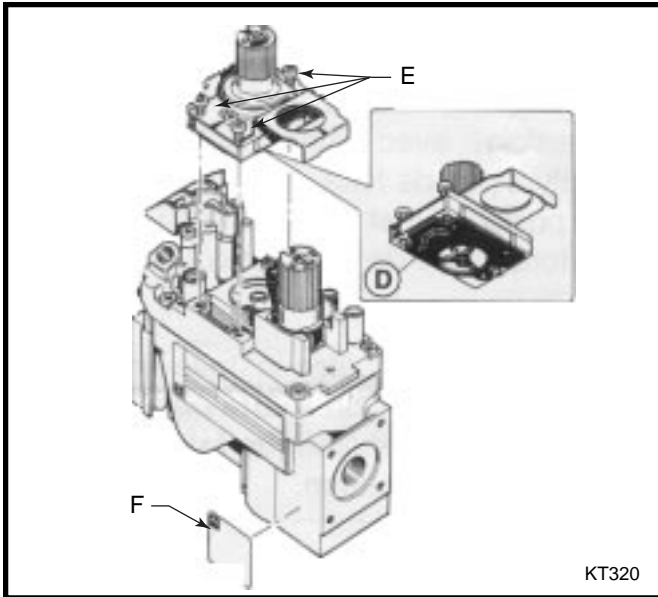

Fig. 8 Replace regulator.
2. Insure the rubber gasket (D) is properly positioned and install the new Hi/Lo pressure regulator assembly to the valve using the new screws (E) supplied with the kit. Tighten the screws securely. (Ref. torque = 25 in/lb) (Fig. 8)
3. Install the enclosed identification label (F) to the valve body where it can be easily seen. (Fig. 8)